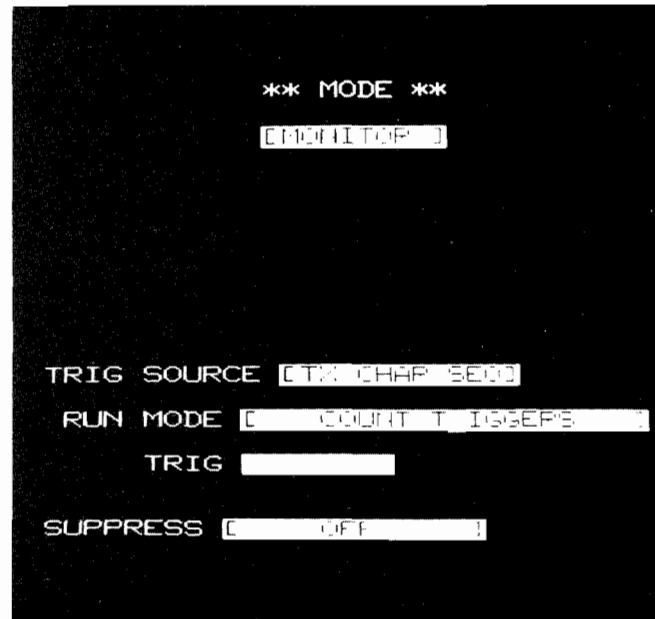

Figure 16-14 1640A Factory Data Link Mode Selection (Communications Monitoring)
- b) Press the MODE key to display the Mode parameters. Select the Mode as shown in figure 16-14.